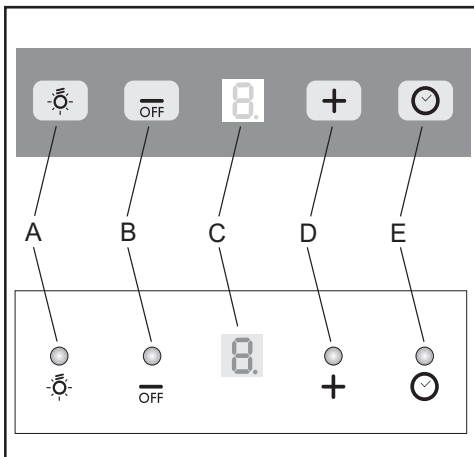

Fig.13
COMMANDS: (Fig.13)
• Active carbon/grease filter saturation fig.13 :